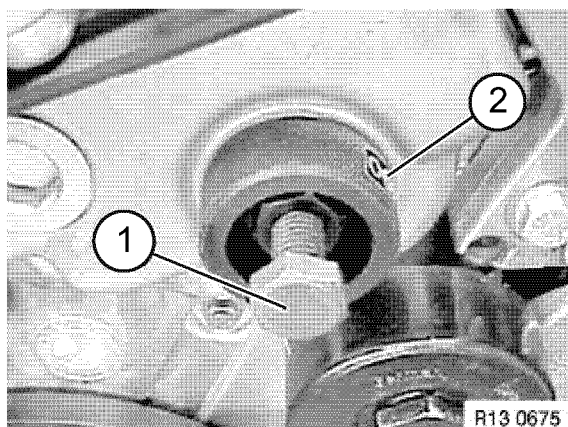

Figure 6-29
1. Remove jack screw (1, **Figure 6-29**) but leave sleeve (2, **Figure 6-29**) (special tool OEM No. 13 5 192) installed.